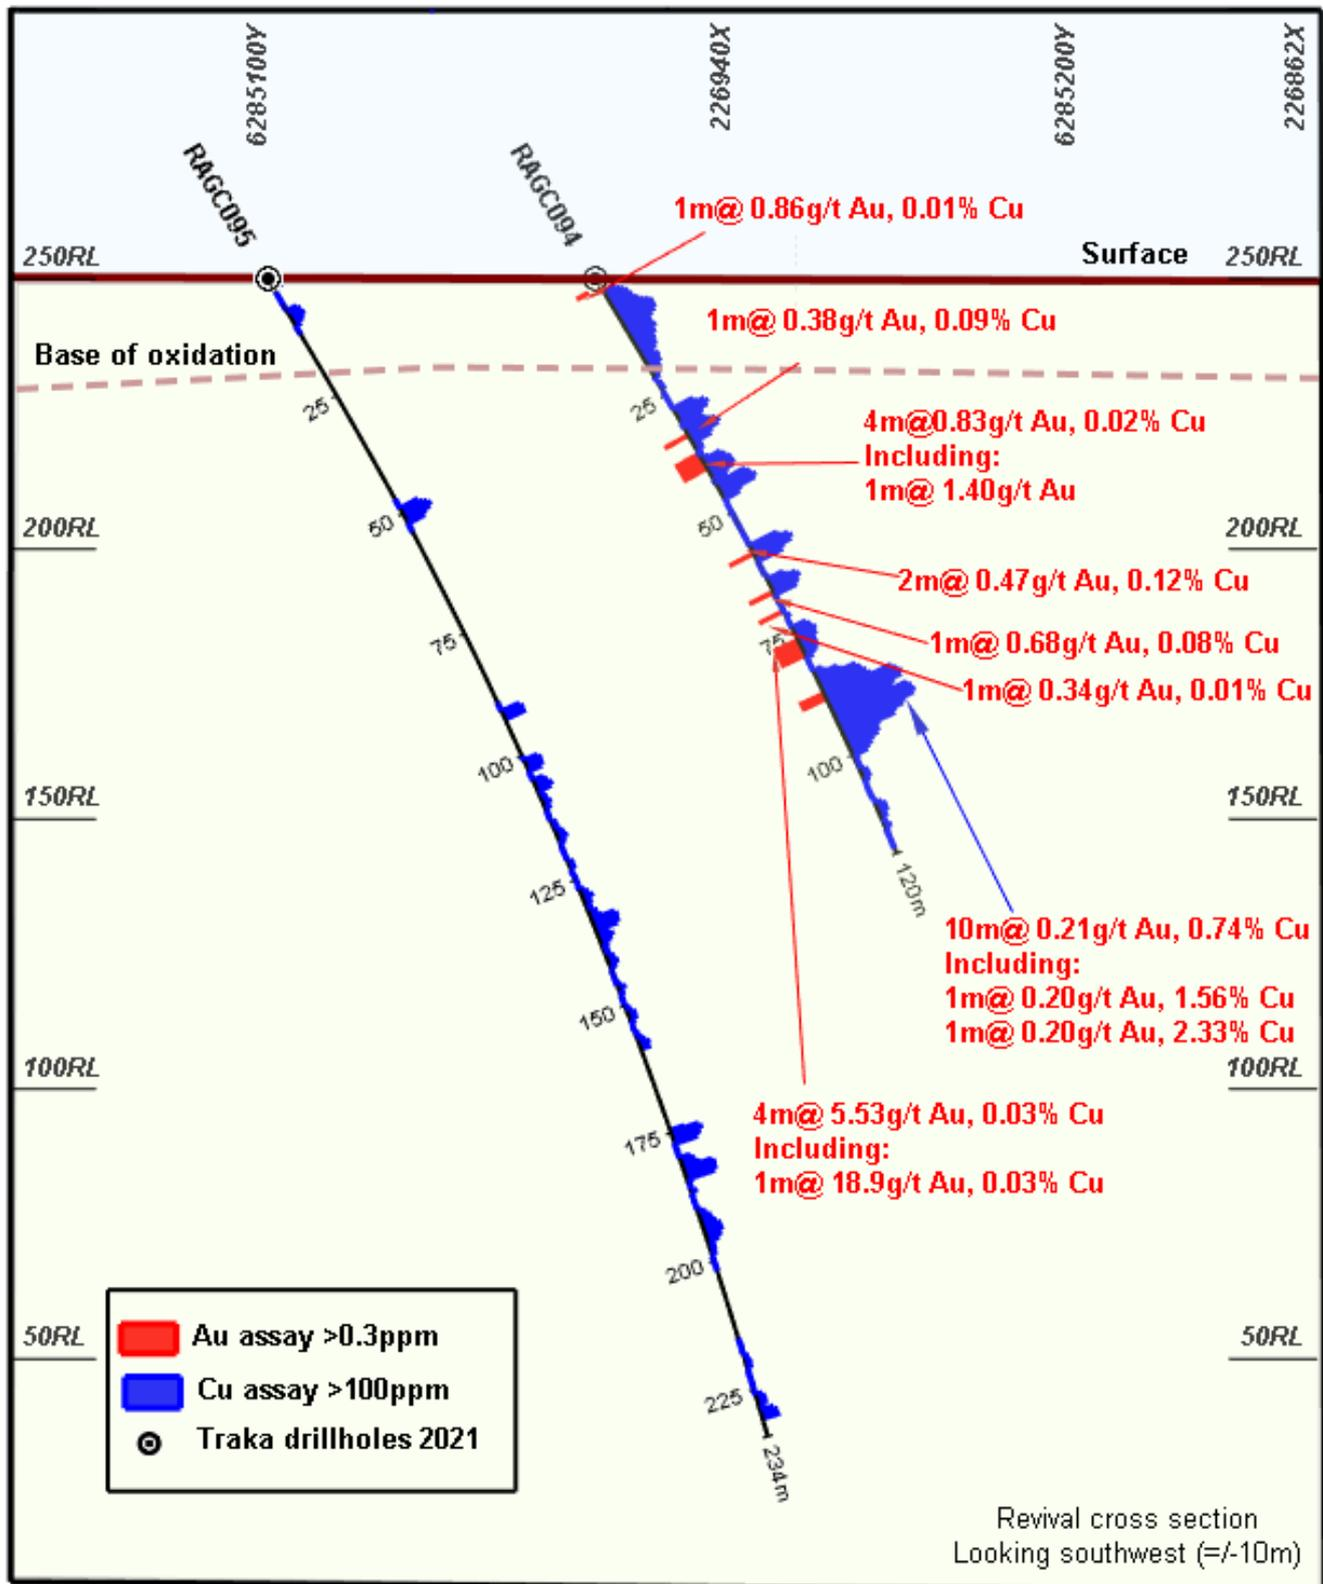

Figure 4. A cross-section of the mineralisation intersected at the Revival Prospect.
The holes intersected gold (Au), copper (Cu) and silver (Ag) mineralisation in a zone at least 50m wide (Figures 4 and 5) within mafic intrusive and porphyry rocks. This is similar to that found at Plantagenet and Ellendale and continues to demonstrate the extensive level of mineralisation within the intrusive complex at Mt Cattlin ^{(1) (2)}.